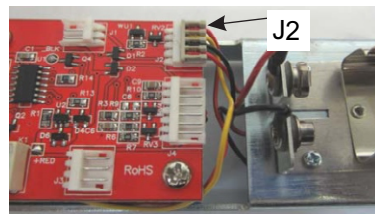

Figure 15
- c. J2 connector may be disconnected or loose (see Fig. 15).